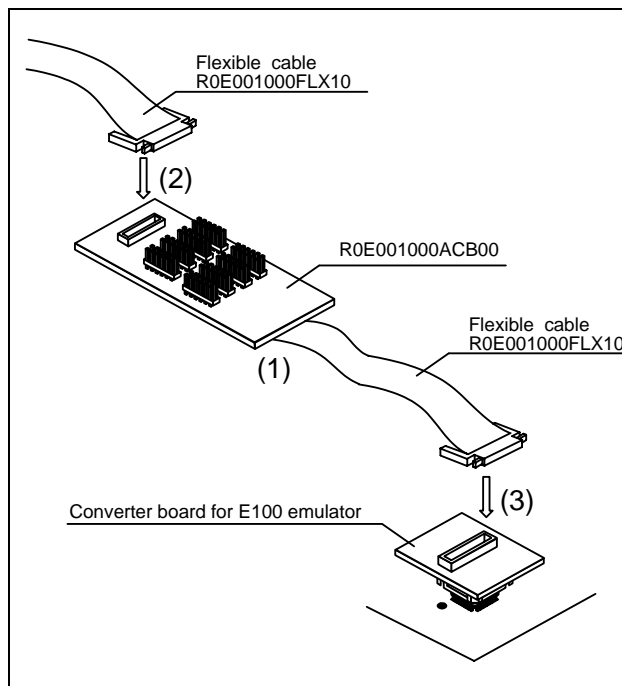

Figure 4 Connection procedure of the R0E001000ACB00
5. Connection Procedure (See Figure 4)